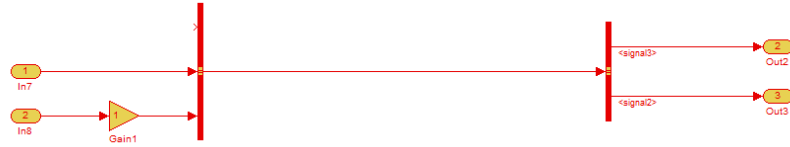

Figure 6: Resulting model after **Slice** operation.
4. We can isolate the coreachability analysis by performing a slice. To do so, right-click anywhere in the model and select the **Slice** option. All blocks and signals which are not highlighted will be deleted from the model. The resulting model is shown in Figure 6.